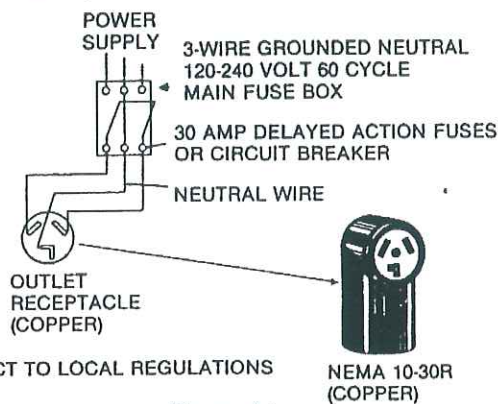

Figure A1
2. **CIRCUIT** - Individual 30 amp branch circuit from main electrical box fused with 30 amp maximum delayed action fuse or circuit breaker (Figure A1).
4. **OUTLET RECEPTACLE** - NEMA 10-30R receptacle (Figure A1) to be located so power supply cord is accessible when Laundry Center is in installed position.
NOTE: The electrical installation MUST conform to the local electrical code. When installing this appliance, call a licensed electrician and refer to Figure A1 along with the following information.